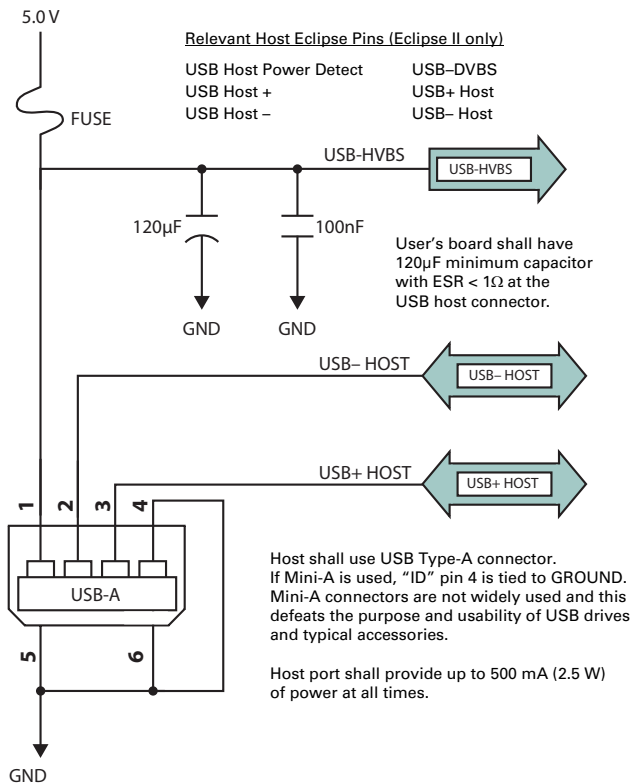

Figure 2-9: Eclipse USB host design example
- USB host port (data storage) shown in Figure 2-9 on page 21 serves as a data storage port, such as with a USB flash drive